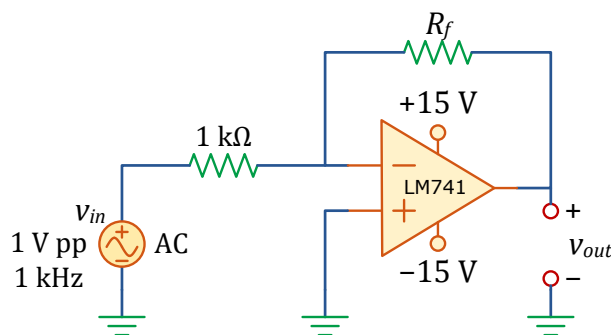

Figure 6.3: Inverting amplifier circuit with Op Amp and AC sinusoidal input voltage.
- 1 In the circuit of Figure 6.3, find the feedback resistor R_f such that the **amplifier gain** is equal to **15**, i.e., $\frac{v_{out}}{v_{in}} = 15$.
- 2 Build the **inverting amplifier** circuit shown in Figure 6.3 on your breadboard. Use the signal generator to provide the input voltage v_{in} with **1 V peak-to-peak** and a frequency of **1 kHz**. Select **sine wave** output. Supply the Op Amp with ± 15 V DC by configuring the DC power supply into **series mode**. Configure the oscilloscope so that the input signal v_{in} is displayed on CH1 and the output signal v_{out} is displayed on CH2. Observe the input and output voltage waveforms and sketch them in the provided space. Clearly label the peak values and the fundamental time-period or frequency of the waveforms on the graphs.
- 3 Use theoretical calculations to find the peak value of the output voltage v_{out} in the circuit of Figure 6.3 and then compare it with the experimental results you obtained in the previous question.
- 7 If you were asked to do the same thing on the inverting amplifier of Figure 6.3, would you expect to observe a similar result? Explain your answer.